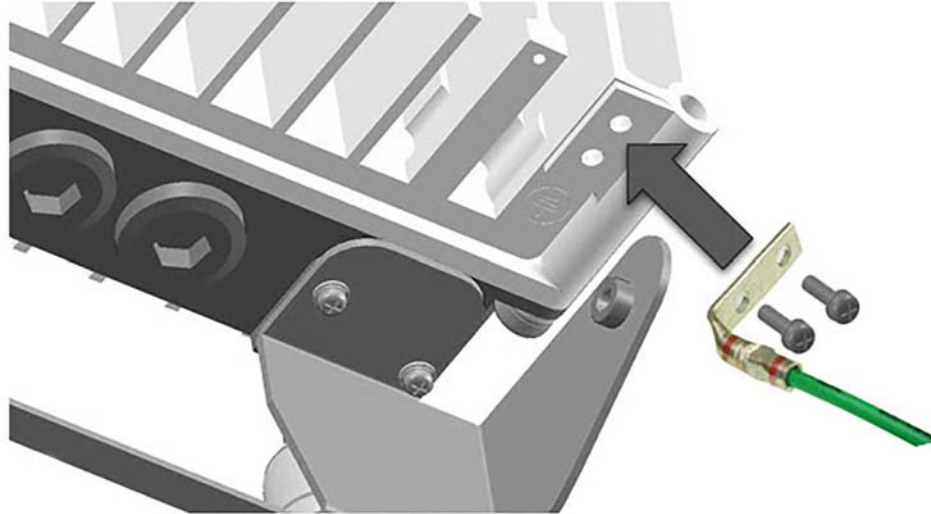

Figure 5-13 Connecting the grounding cable
1. Fasten the dual-hole grounding lug and cable assembly to the iRU4438 iRRH chassis grounding posts using the two (2) M5-0.8 bolts and washers supplied. See Figure 5-13.